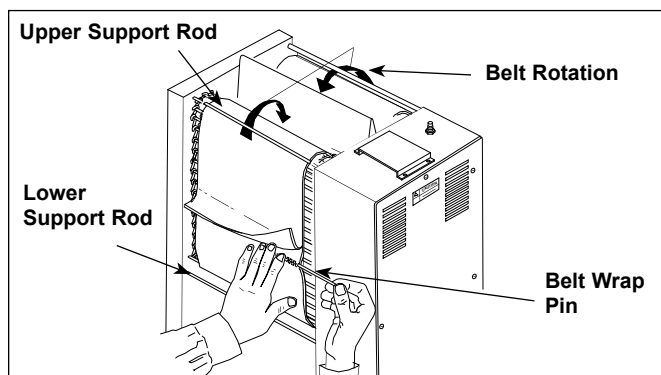

Figure 10. Installing Optional Belt Wrap
6. Install the new Belt Wraps around the Conveyor Belt Chains inside the yellow rods with the zipper flap exposed and hanging down (Figures 10 & 11).